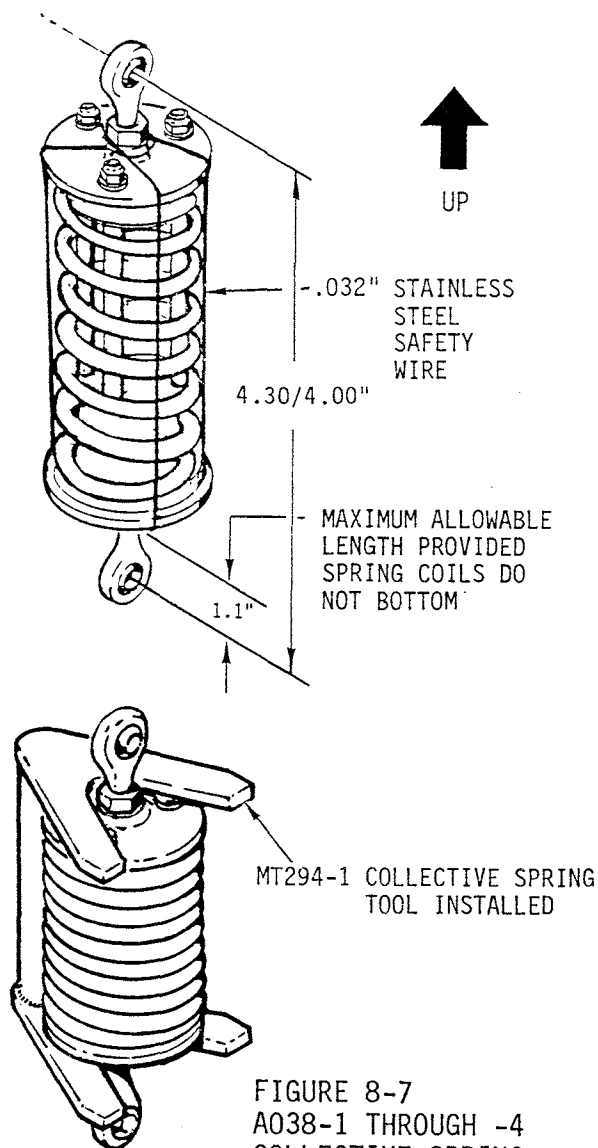

FIGURE 8-7
Overall compressed length for installation to be 4.30/4.00 in. between centers of the rod ends. The nut end of the rod guides to be pointing up (See Figure 8-7).
- a) Small force adjustments may be made by screwing the lower rod end in or out. Install the MT294-1 collective spring tool. Remove the lower bolt and loosen the adjustment. After reinstallation, ensure that the spring coils do not bottom out with the collective full down. The maximum extension for the bottom rod end is 1.1 inches provided the spring coils do not bottom (See Figure 8-7).
- g) Compress the spring assembly in a vise to a dimension of 4.30/4.00 inch between the rod end center lines. Safety wire with 0.032 inch diameter stainless steel safety wire (see Figure 8-7).